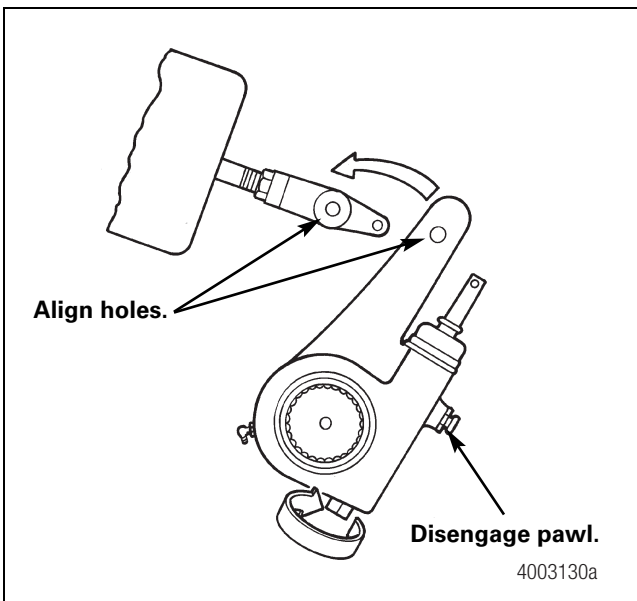

Figure 5.17
3. Disengage the pawl. Turn the manual adjusting nut to align the holes in the slack adjuster arm and the clevis. Figure 5.17.